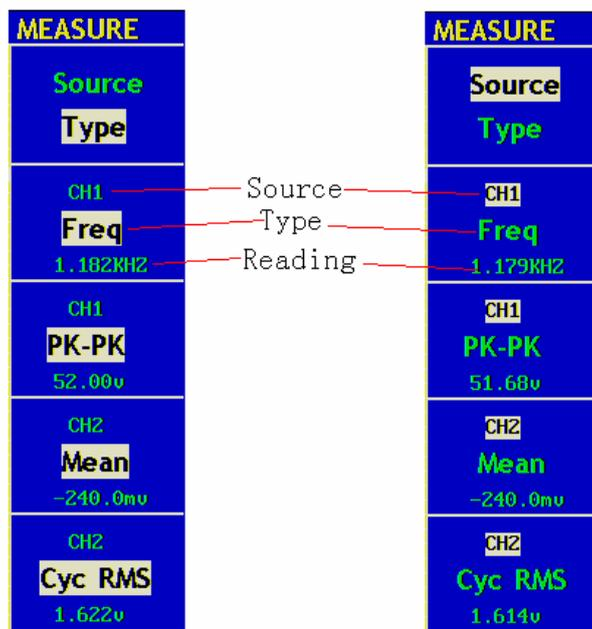

Fig.5-43 Measure Menu
Press the **F1** menu selection button to choose **Source** or **Type** menu. You can choose the channel to be measured from the **Source** menu and choose the measurement **Type** (Freq, Period, Mean, PK-PK, and Cyc RMS). The menu is displayed as **Fig.5-43**.
- Adjust the positions of **CURSOR1** and **CURSOR2** according to the measured waveform, with the period and frequency of Cursor1 and Cursor 2 displayed in the increment window. The current position of Cursor1 is displayed in the Cursor1 window and that of Cursor2 is displayed in the Cursor2 window (see **Fig.5-43**).